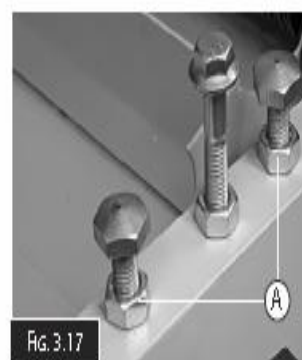

Fig.3.17
5. Unlock the outfeed table locking handle and raise the table up. With the table out of the way adjust the two positioning studs. ("A" in Fig.3.17)